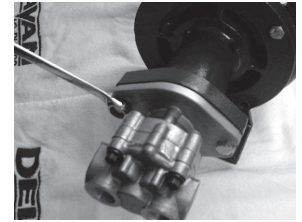

Fig. 7
1. Remove motor from the pump using a 9/16" wrench. Fig. 7.